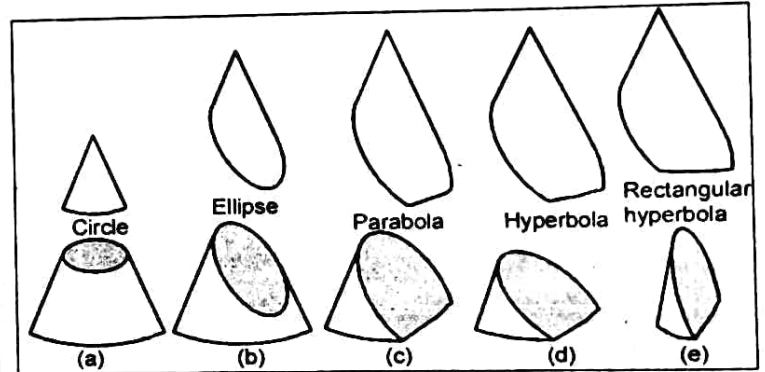

Fig.2
1. **Circle** : When the section plane is parallel to base i.e. perpendicular to axis then the section is a circle [figure 2(a)].
2. **Ellipse** : When the section plane is inclined to axis and cuts all generators on one side of the apex, the section is an ellipse [figure 2 (b)].
3. **Parabola**: When the section plane is inclined to the axis and is parallel to one of the generators, the section is a parabola [figure 2 (c)].
4. **Hyperbola** : When the section plane is inclined in such a way that the angle made with the axis is smaller than that of the angles made by the generators, i.e. it is not parallel to one of its generators, the section is a hyperbola [figure 2(d)].
5. **Rectangular Hyperbola** : When the cutting plane is parallel to the axis, the true shape of the section is rectangular hyperbola, shown in figure 2 (e).